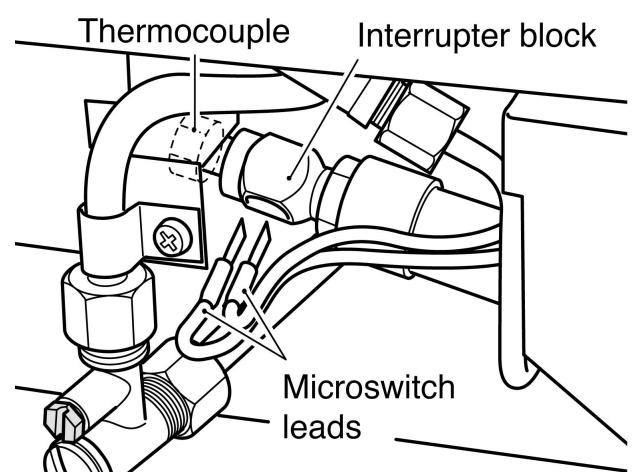

Figure 36. Thermocouple interrupter block
3. Loosen the thermocouple nut to free the microswitch leads and pull the leads clear of the thermocouple interrupter block (See figure 36).
(See figure 36).